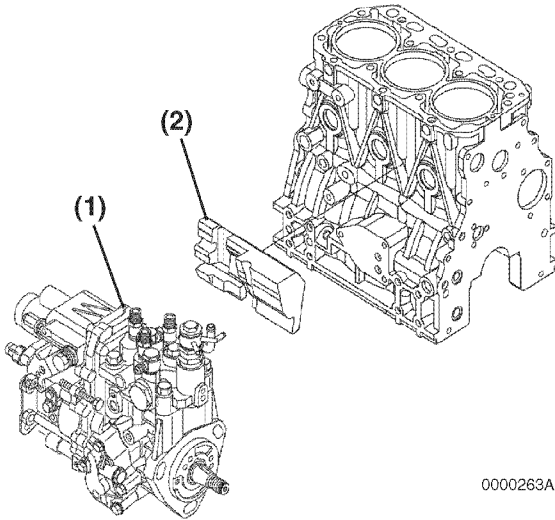
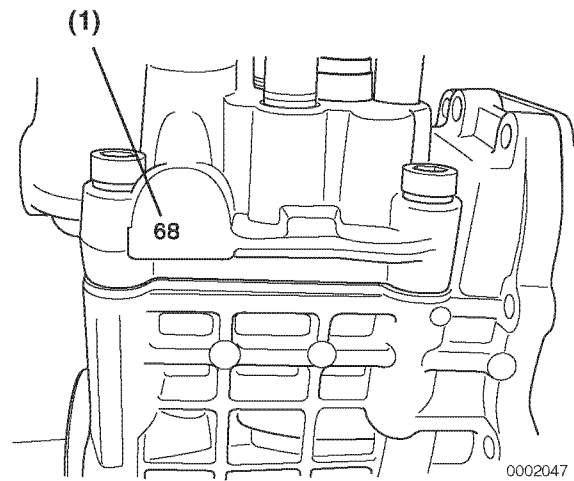

Figure 7-17
Figure 7-18
Note: Some model engines may require the intake manifold and fuel injection pump insulator (Figure 7-17, (2)) be removed to access the inner fuel injection pump (Figure 7-17, (1)) retaining nuts.
24. Remove the fuel injection pump (Figure 7-17, (1)). For purposes of future injection timing purposes, record the fuel injection pump timing index number located on the boss on the engine side (back) of the of the fuel injection pump (Figure 7-18, (1)).